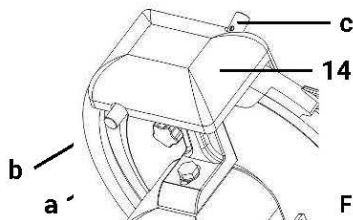

Fig. 5
7. Hold the button (**b, fig. 5**) of the sharpener on the back of the sharpener (1) and leave the device turned on for approx. 30-40 seconds until burr appears on the blade edge.